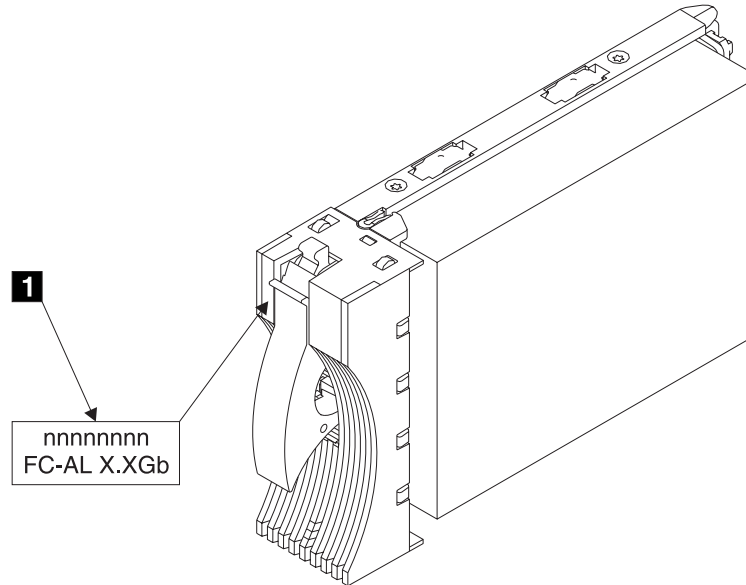
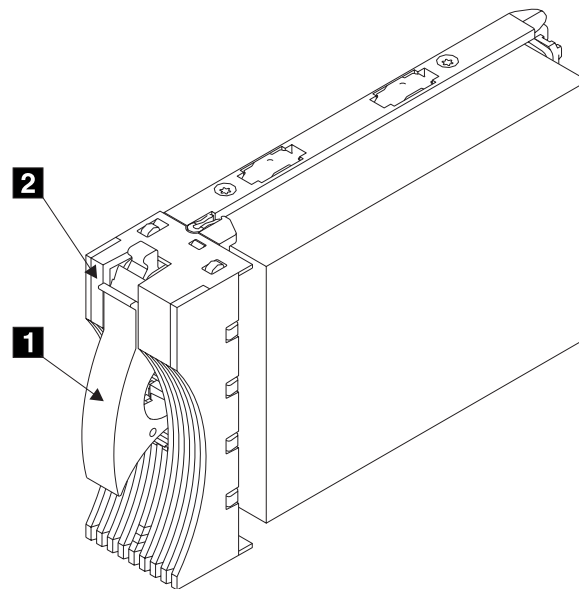

Figure 12. Disk Drive Module Label
Figure 13. Disk Drive Module Handle and Label
2. You have the correct disk drive module. Refer to Figure 13. This disk drive module has, at the front, a handle **1** that can be pulled upward to open. The capacity of a disk drive module is shown on a label **2** at the front of the disk drive module. The label is shown in more detail in Figure 12 on page 11.